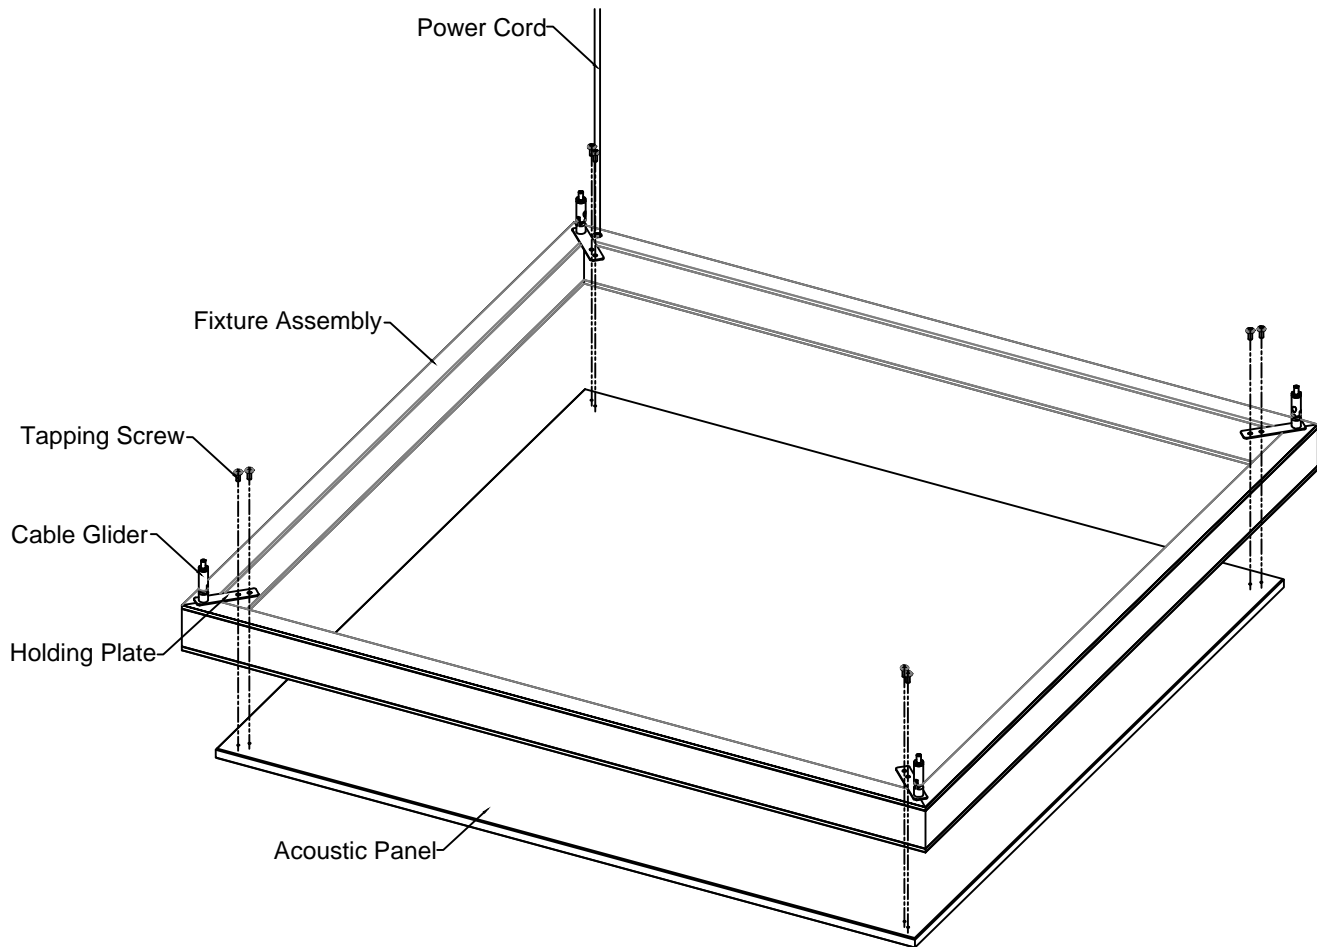

Figure 1
2. Insert the fixture assembly to the acoustic panel and secure it with supply tapping screws - see Figure 1